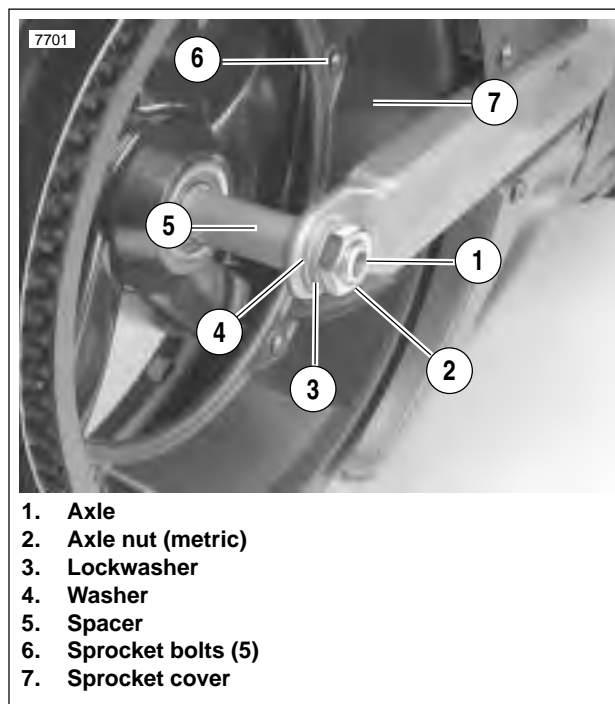

Figure 1-21. Rear Axle, Right Side
- a. See Figure 1-21. Hold right side spacer in place.